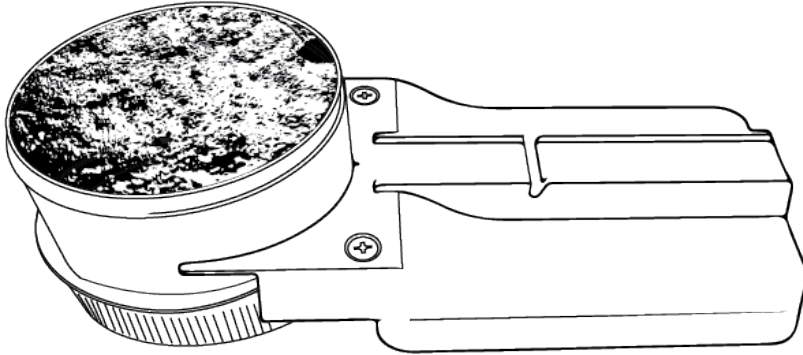

Figure 8 Soil sampling ring on installation tool
5. Turn the setup around and place it in the installation tool (Figure 8). Use just the upper part of the installation tool.
7. Align one of the soil sample ring drill holes with the installation tool guide rail (Figure 8).